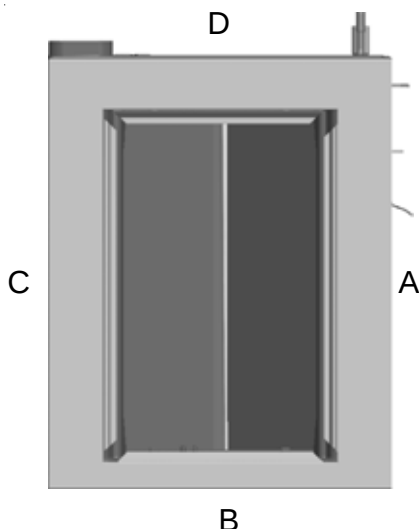

FIGURE 1 - Bottom View of Coil
2. Identify sides A, B, C and D of the insulation and drain pan as shown in Figure 1. (Side D is wider than side B.)